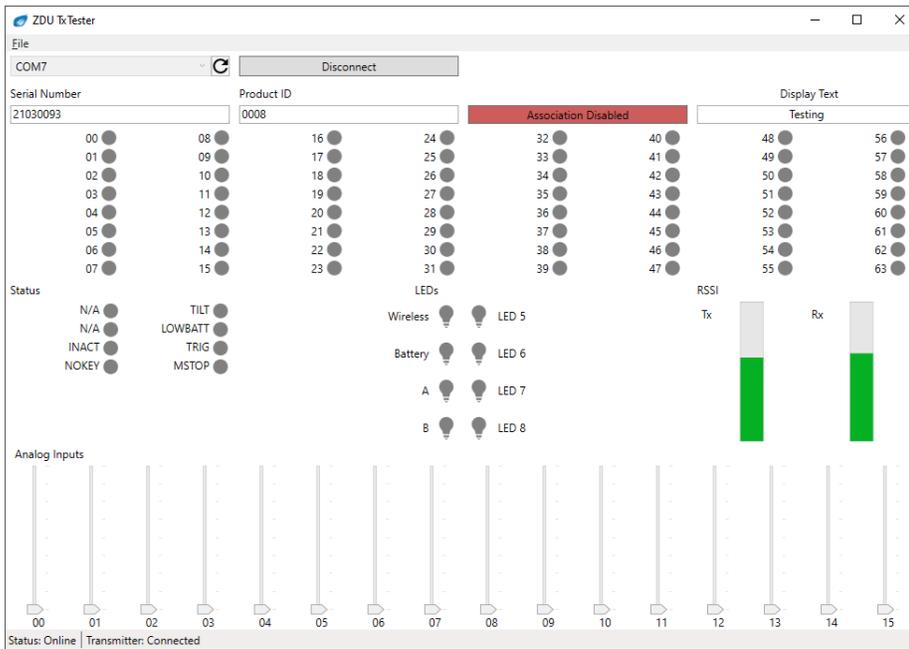

Figure 12. Updating Display Text and LED states
3. Hit Enter and check that the new text appears on the transmitters display. See Figure 12.